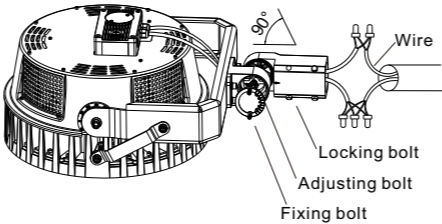

Figure 13
**ADJUSTABLE FITTER MOUNTING (AM)**
1. Loosen the 4 locking bolts on the slip fitter, connect the wire correctly and put the wire into pole. Then fasten the locking bolts between slip fitter and the pole. (Figure 13)
Notice: Adjustable angle is 0-90°(Figure 13).